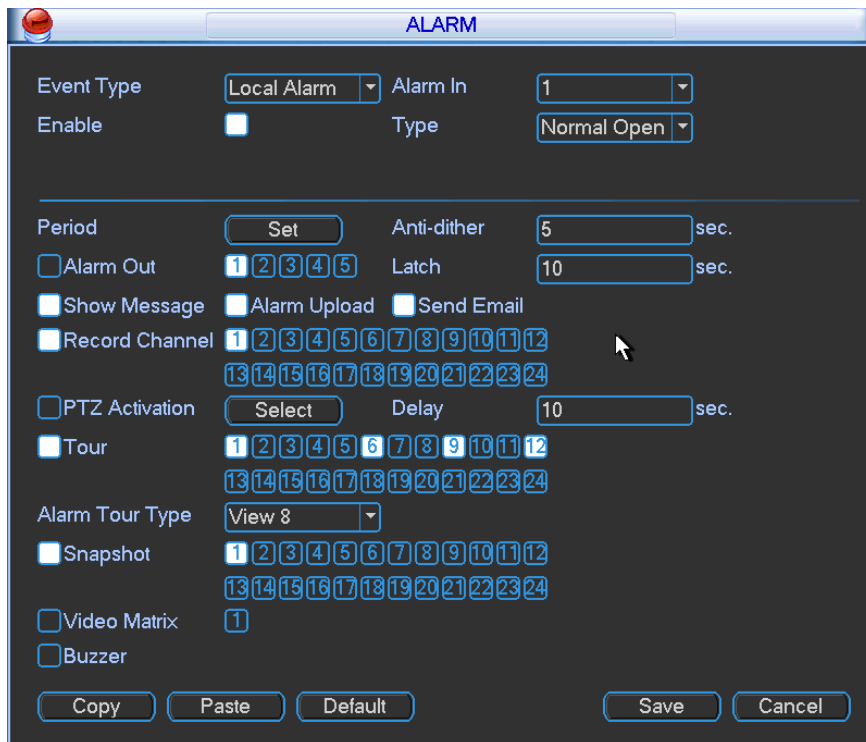
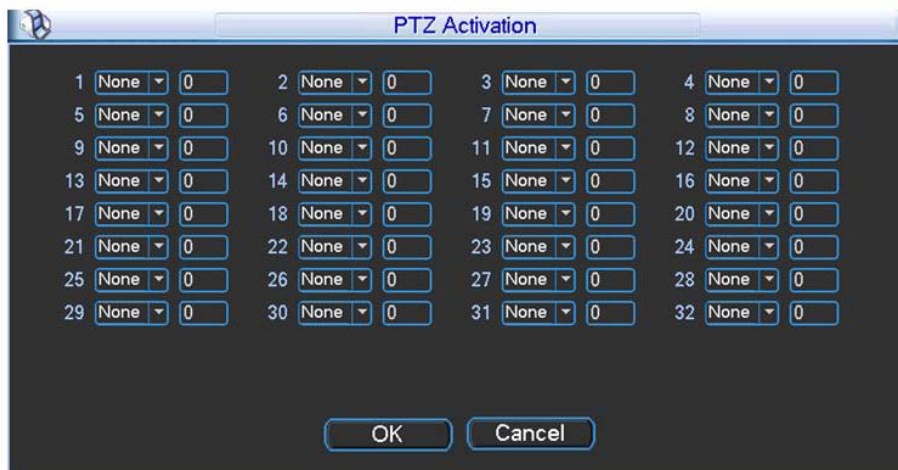

Figure 4-31
Figure 4-32
In the main menu, from Setting to Alarm, you can see alarm setup interface. See Figure 4-31.
Alarm interface is shown as below. See Figure 4-31.
- ✧ In Figure 4-31, click “select” button, you can see an interface is shown as in Figure 4-32. Here you can set the activation operation such as preset tour, pattern and enable.